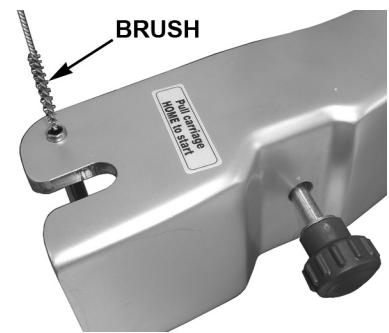

Fig. 15
- Clean the Product Tray pin with the brush as shown (Fig. 15).